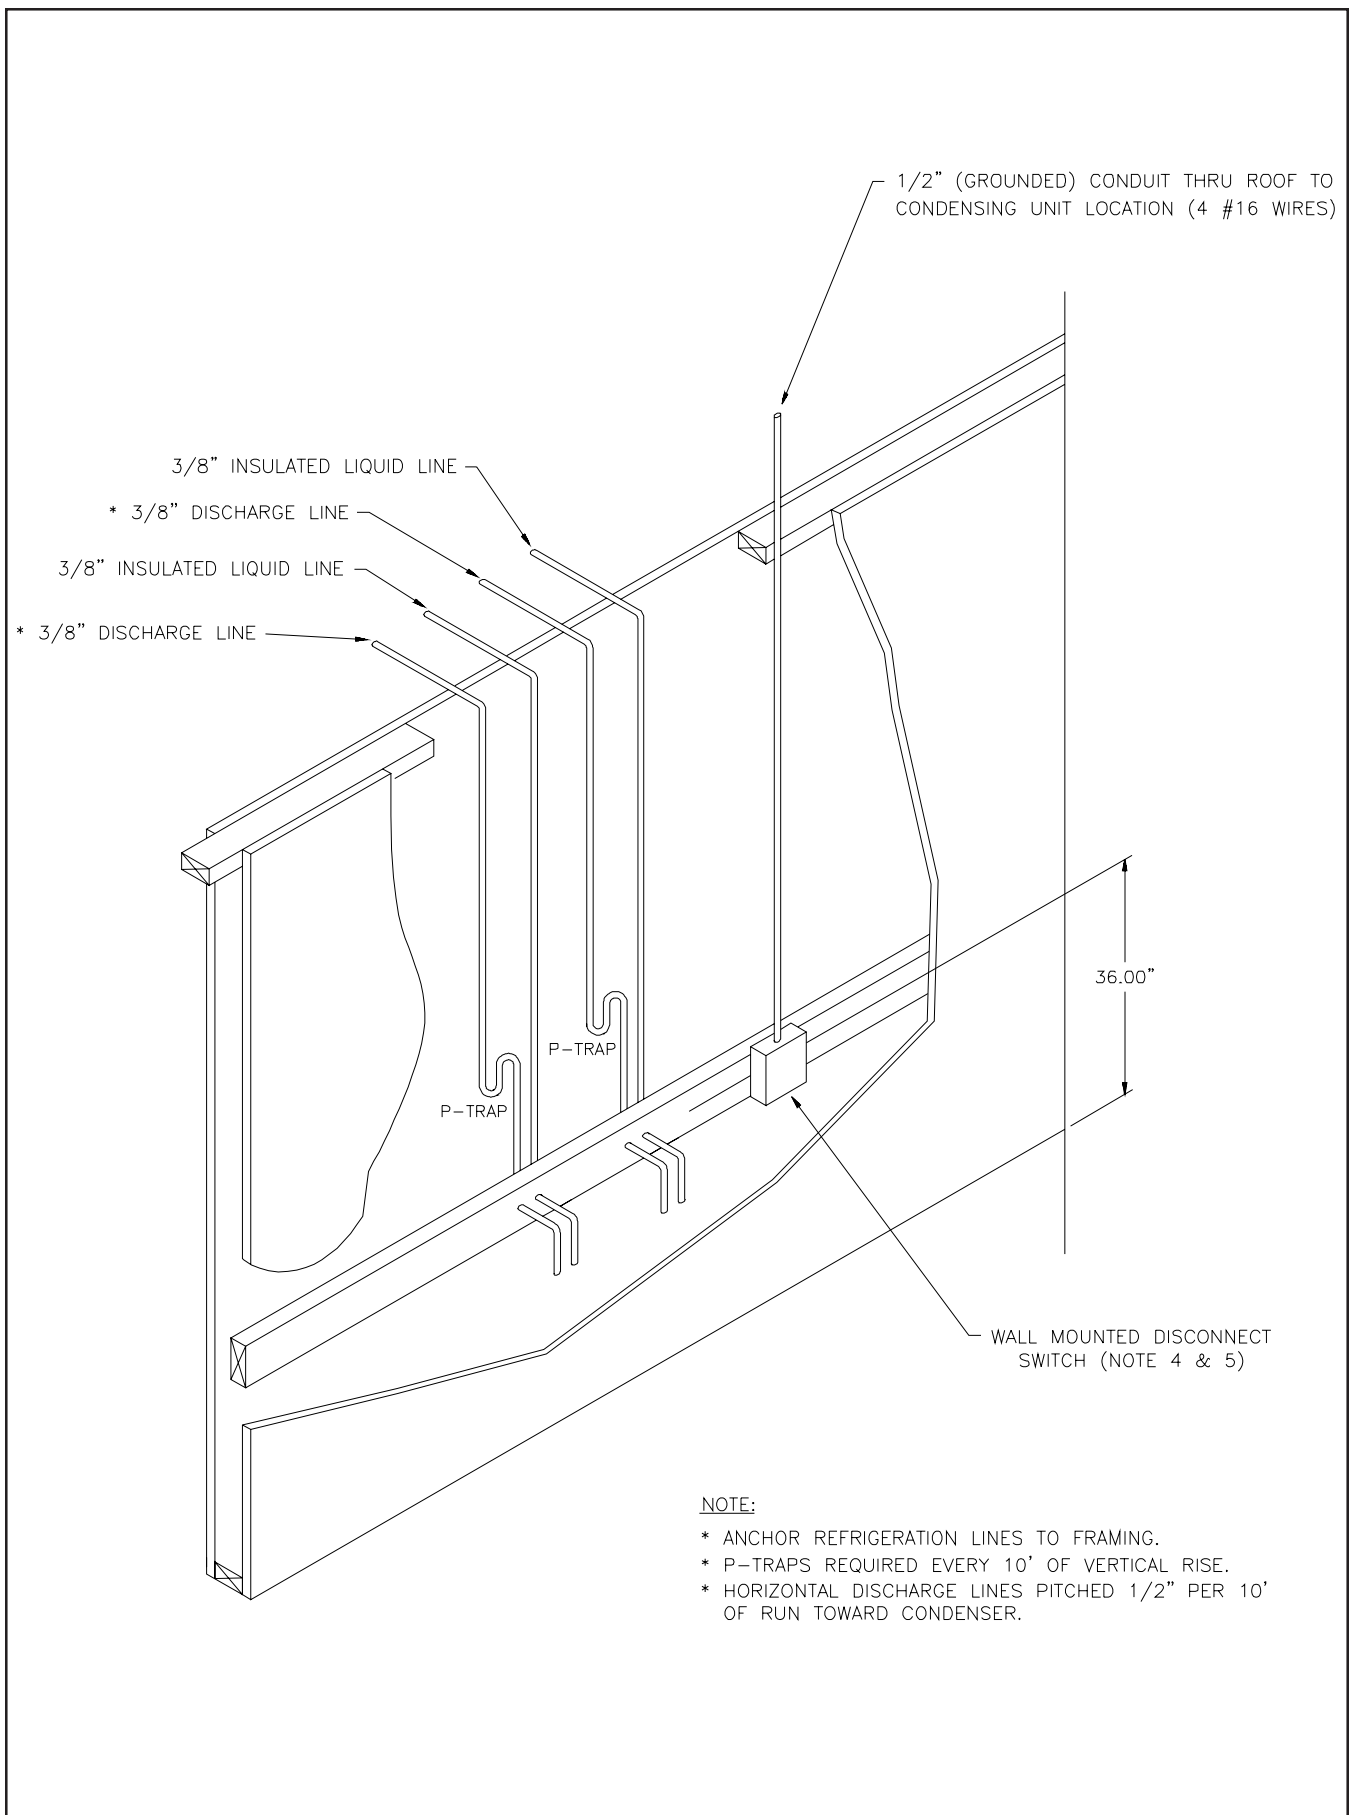

Figure 5
- B. Connect refrigerant lines. Use 3/8 inch (9.52 cm)O.D. copper line only. Trap hot gas line as shown (Fig.5). Do not trap liquid line at all. If condenser is below the freezer, no traps are required. (Fig.5)